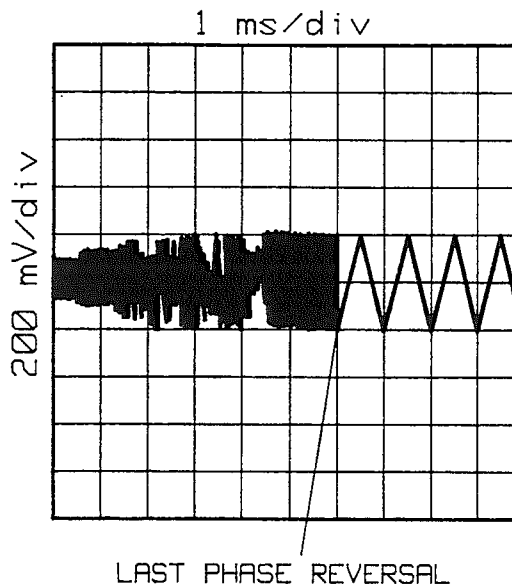

Figure 4-14. Frequency Switching Time Measurement Waveform
13. Press the digitizer (STORE M1) key on the oscilloscope and step the Signal Generator to the stop frequency with the appropriate **FREQ INCREMENT** key. The oscilloscope should digitize the switching waveform as the frequency changes. The waveform should now look like that shown in Figure 4-14.
14. Measure the frequency switching time by observing the digitized signal on the oscilloscope display. The external trigger is the reference for determining switching speed. The switching time is measured from the display's left graticule to the last phase reversal (as the Signal Generator frequency passes the local oscillator frequency) before the IF signal settles into a steady frequency. Refer to Figure 4-14. Record the frequency switching time.